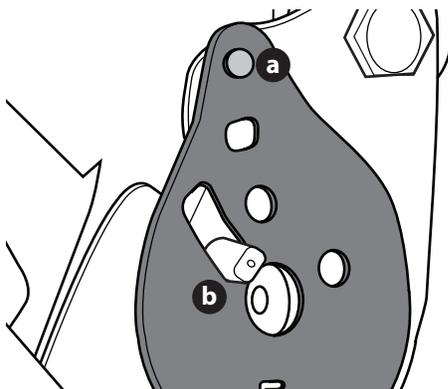

Figure 12
6. Tilt the seat forward into the full forward position. Replace the recliner plate with the clinch-stud (a) and the recliner pin (b) passing through the recliner plate in the locations shown in Figure 12.